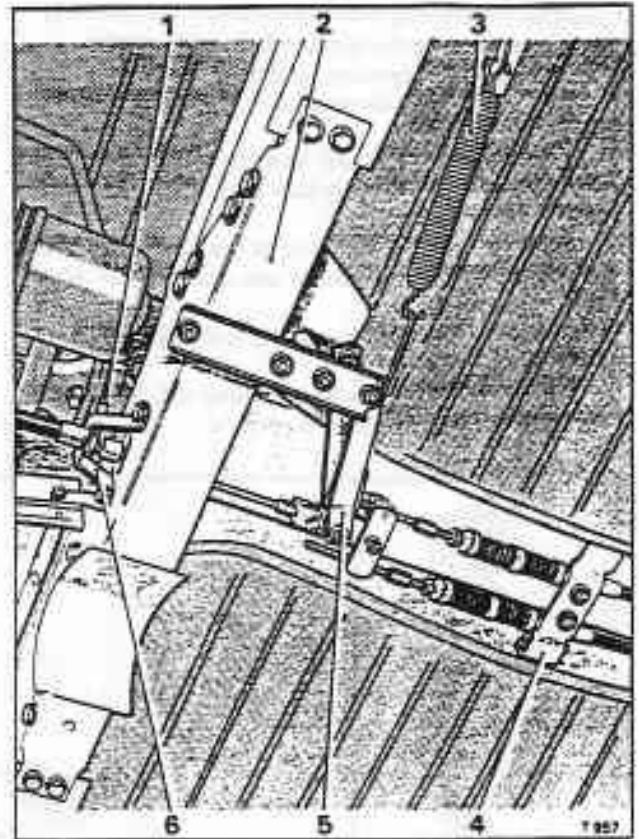

Fig. G17-1 Parking brake intermediate linkage
2. At the intermediate linkage on the underside of the body, unhook the parking brake return spring from the operating lever. Remove the clevis pin attaching the front brake cable to the lever (see fig. G17-1).